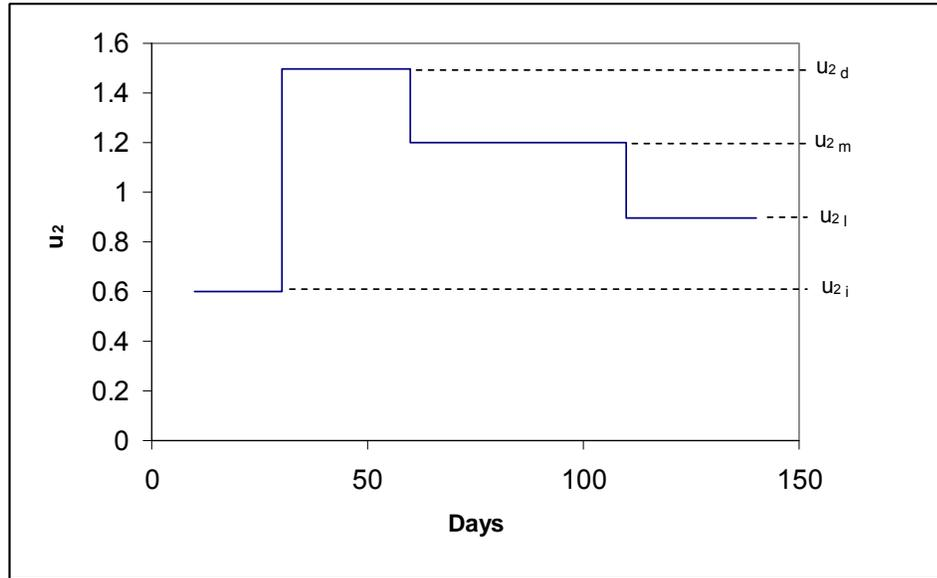

Figure 7. Example of time varying mean daily wind speed as specified in the Growth Stage Table.
8. Wind speed (u_2) - mean value of daily wind speed at 2 m height (ft/s or m/s). Values are specified for each growth stage (Figure 7, Table 1). This information is used by LAWS to compute the value of Kc_{max} used in the dual crop coefficient method. See **Technical Reference Section**.